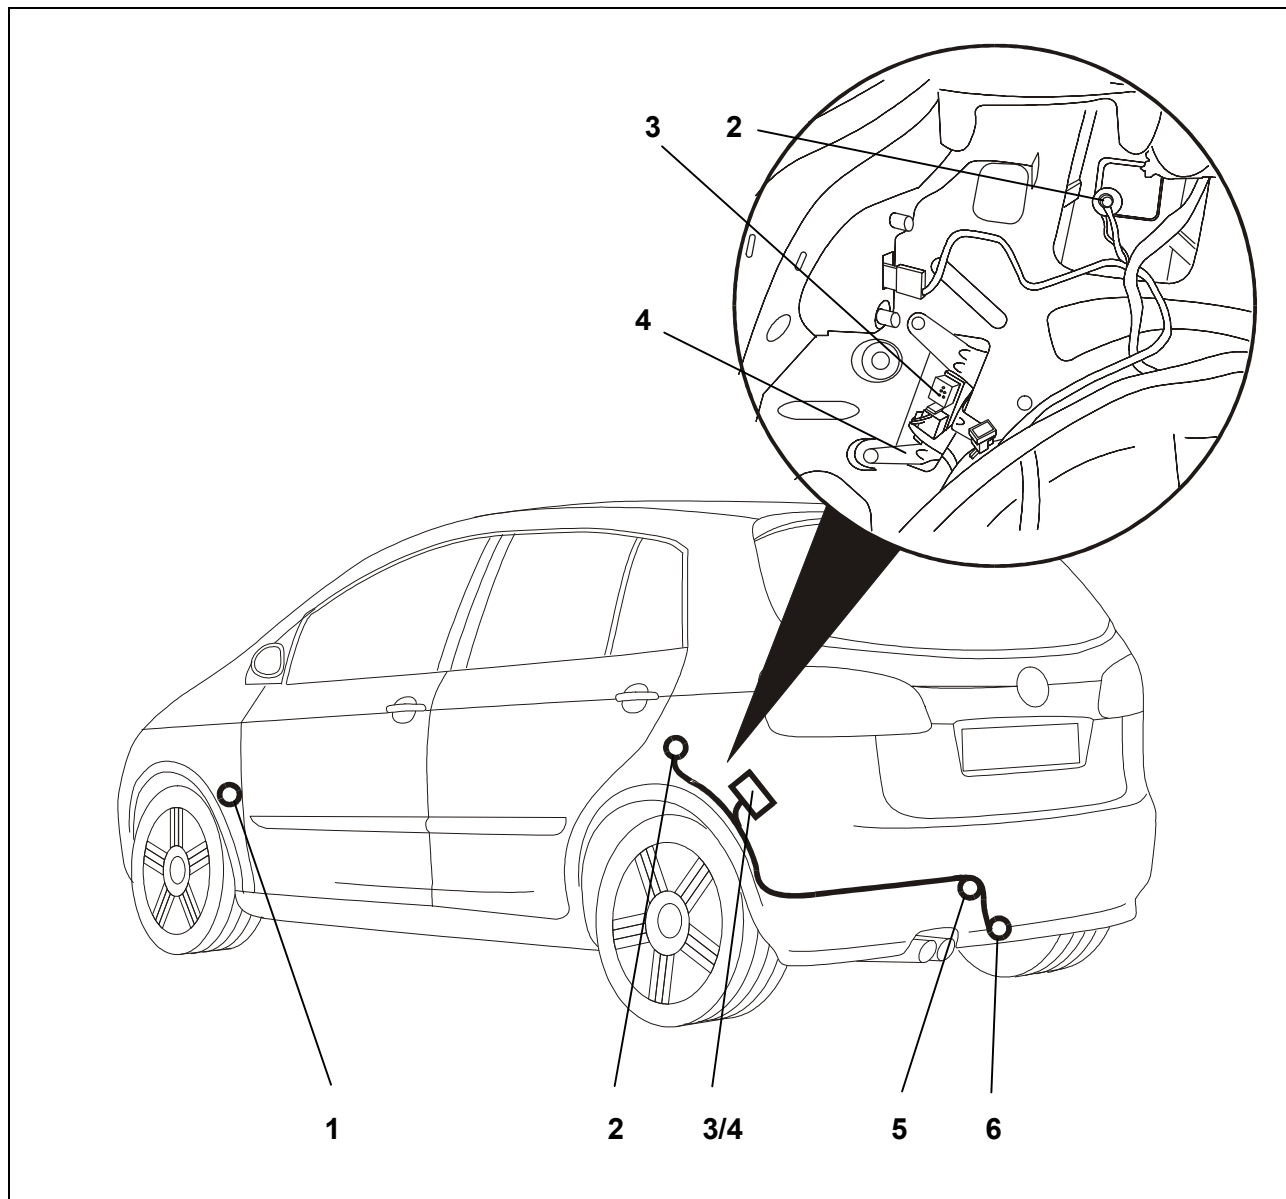

Fig. 1: Installation overview
3. Remove the vehicle's 40 mm hole cover on the left of the vehicle's centre in the rear end plate (Fig. 1/5).
5. Fasten this unit in the intended place in the luggage trunk using the supplied snap nuts and fastening screws (Fig. 1/4).
6. Lay the cable end with the 16-pin plug and the eyelet from the outside through the cable leadthrough to the trailer connection unit (Fig. 1/3).
7. Insert the rubber grommet into the cable leadthrough (Fig. 1/5).
8. Lay the socket end of the cable set to the socket holder plate (Fig. 1/6).
10. Screw the socket onto the holding plate (Fig. 1/6) using the supplied screws.
11. Insert the 16-fold connector housing into the intended slot of the trailer connection unit (Fig. 1/3) and let it lock into place.
12. Remove foam coating from vehicle-fitted red 12-way socket housing, fixed to the vehicle body in the area of the trailer control unit, and connect and lock the socket housing into the designated socket in the trailer connection unit (fig. 1/3).
13. Connect the brown cables with the ring contacts to the vehicle-fitted ground point (fig. 1/2).